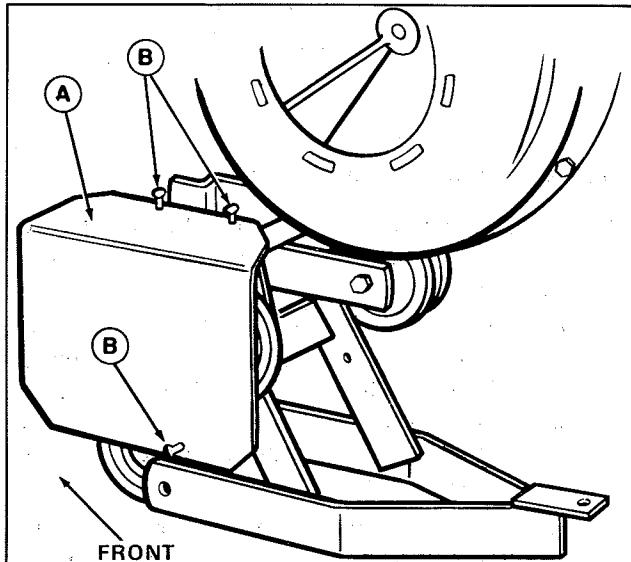
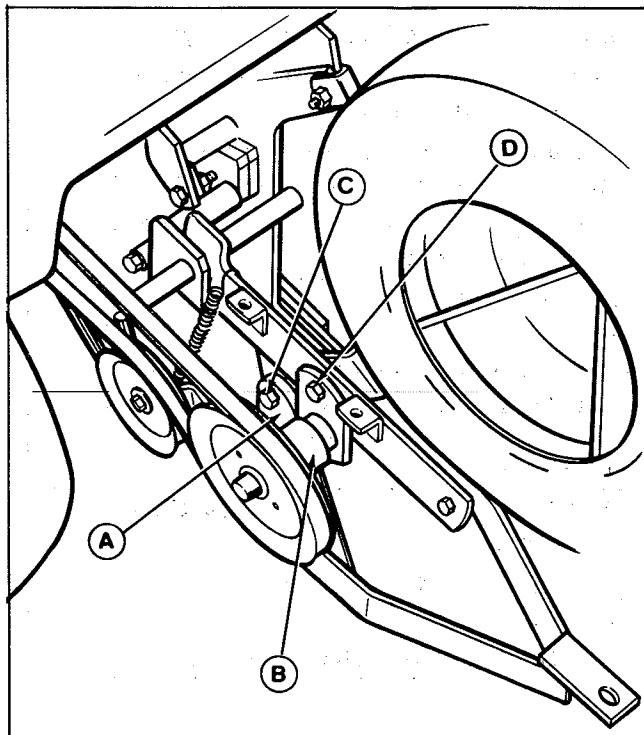
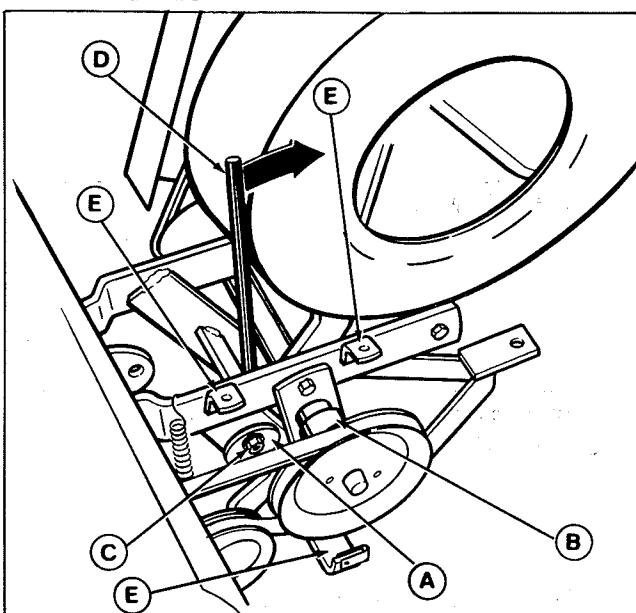

Figure 5. Shield Installed Left-Hand Side
Figure 11. Belt Adjustment
Figure 13. Moving Cross Shaft Back
3. Remove the shield (A, figure 5) by removing the three wing screws (if installed).
5. Install the pulley shield (A, figure 5) to left side as shown in figure 5 with the three wing screws. (The three shield brackets are shown in figure 13).
3. Remove vacuum collector drive belt from tractor PTO pulley. To loosen tension on the belt, it can be slipped off the idler pulley. If necessary, remove the shield (A, figure 5) for clearance. Reinstall the shield and three wing screws to avoid loss.
Early model vacuum collectors do not have the eccentric washer (A, figure 11) which makes belt adjustment possible.
To gain access for adjustment, remove the shield (A, figure 5) by removing the three wing screws. Be sure to reinstall the shield after completing the adjustment.
Loosen the two cross shaft screws (D, figure 11). (There is one screw on each side.) Loosen the nut (C) just enough so that the eccentric washer (A) can be rotated. The eccentric washer can be rotated by tapping the edge with a hammer.
To increase the measurement, use a crowbar as a lever (figure 13) to rotate cross shaft toward rear. While holding the cross shaft in position, rotate the washer (A) until it meets the cross shaft then tighten the nut (C). Recheck the measurement and readjust if necessary.
When adjustment is correct, tighten the two cross shaft screws (D, figure 11). Reinstall the shield (A, figure 5). The shield brackets are shown in figure 13.
9. The shield and three wing screws can be installed after the vacuum collector has been installed on tractor (see Installation). The shield is shown in figure 5.